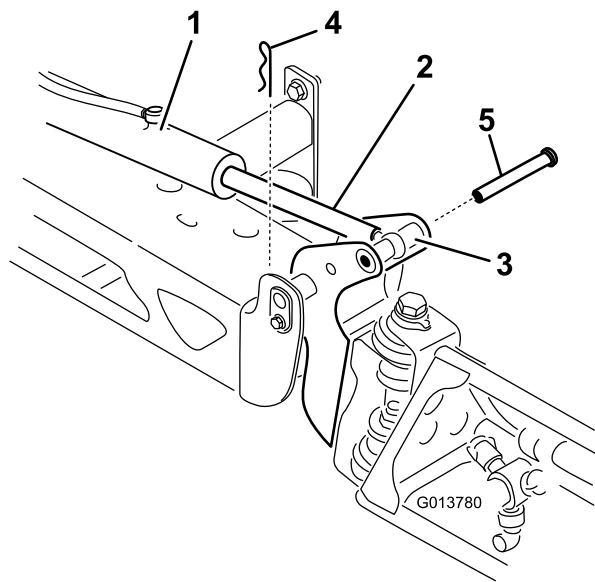

Figure 37
2. Remove the cotter pin from the pivot pin (Figure 37).
3. Lift up on the boom and remove the pin (Figure 37). Slowly lower the boom to the ground.
7. While holding the boom, insert the pin through both boom pivot and actuator rod (Figure 37).